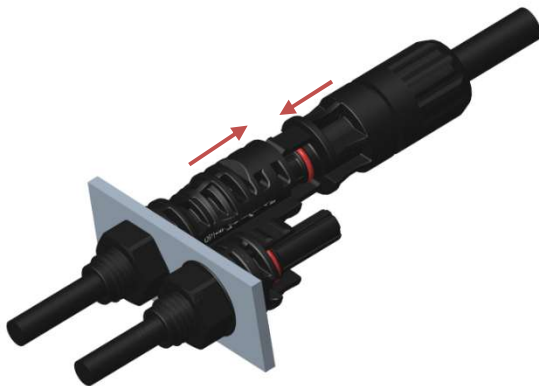
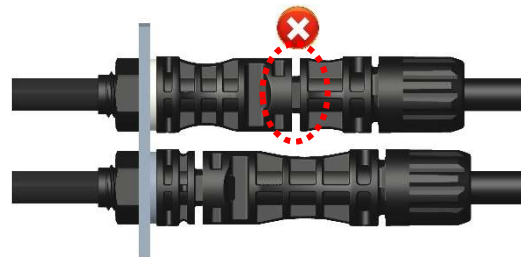

Figure 20
Figure 22
- ✧ 公母连接器插合：将公/母电缆连接器插入母/公面板连接器，直至其啮合。轻轻拉动，以检查是否啮合牢固（如图 20&21）。同时检查公母连接器有无对配不到位现象（如图 22）。
Insert the Male/ female cable connector into the female/ male panel connector until they engaged. And pull lightly to check correct engagement (Fig. 20&21). At the same time, check whether the male and female connectors are in place or not (Figure 22).